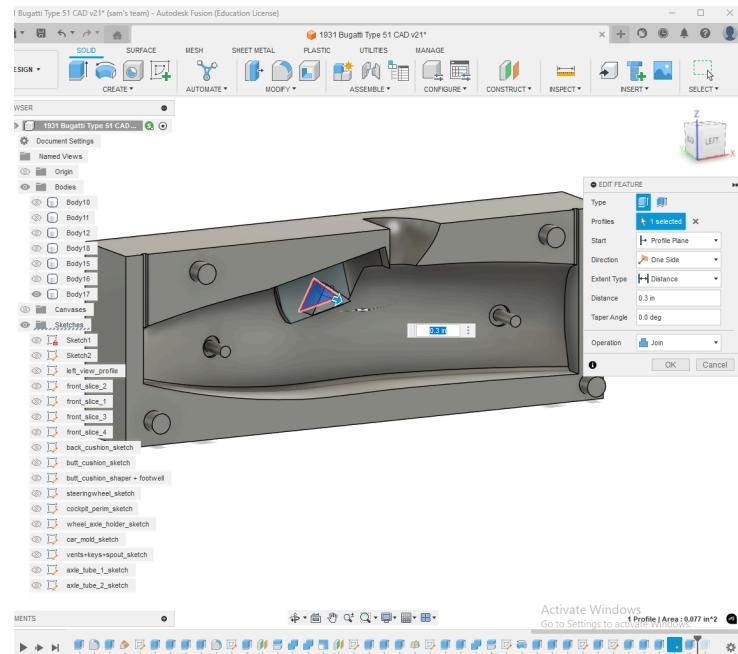

Fig. 38: Creation of triangular extrusion to support cockpit spacer
11. In order to secure the cockpit spacer in place while you fill the mold with silicone, make a sketch of a geometric shape on the cockpit spacer's face. A triangle should work nicely. Make sure to make a corresponding recess that is larger (~ 0.01 inch offset) to accommodate the tolerances. Triangle and recess are shown in **Fig. 38** and **39**, respectively.